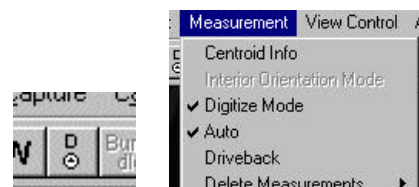

Figure 4.12: Resection driveback.
- Measure a minimum of 4 well-distributed points throughout the image, ensuring that the points are labeled correctly. Select the **Driveback** item from the **Measurement** menu, use the toolbar button marked with a **D** over a benchmark symbol, or use the key combination **ALT + D** (Fig. 4.12).